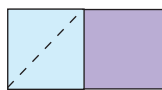
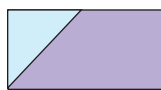

Fig. 1
Fig. 2
1. Place (1) 4 ½" Fabric E square on the left side of (1) 4 ½" x 8 ½" Fabric D strip, right sides together (Fig. 1). Sew across the diagonal of the square from the upper right corner to the lower left corner (Fig. 1). Flip open the triangle formed and press (Fig. 2). Trim away the excess fabric from behind the triangle, leaving a ¼" seam allowance. This "flip and sew" method will be used in several other steps in this quilt. (Note: When using the flip and sew method, refer to the appropriate figure or quilt layout for the correct seam direction.)